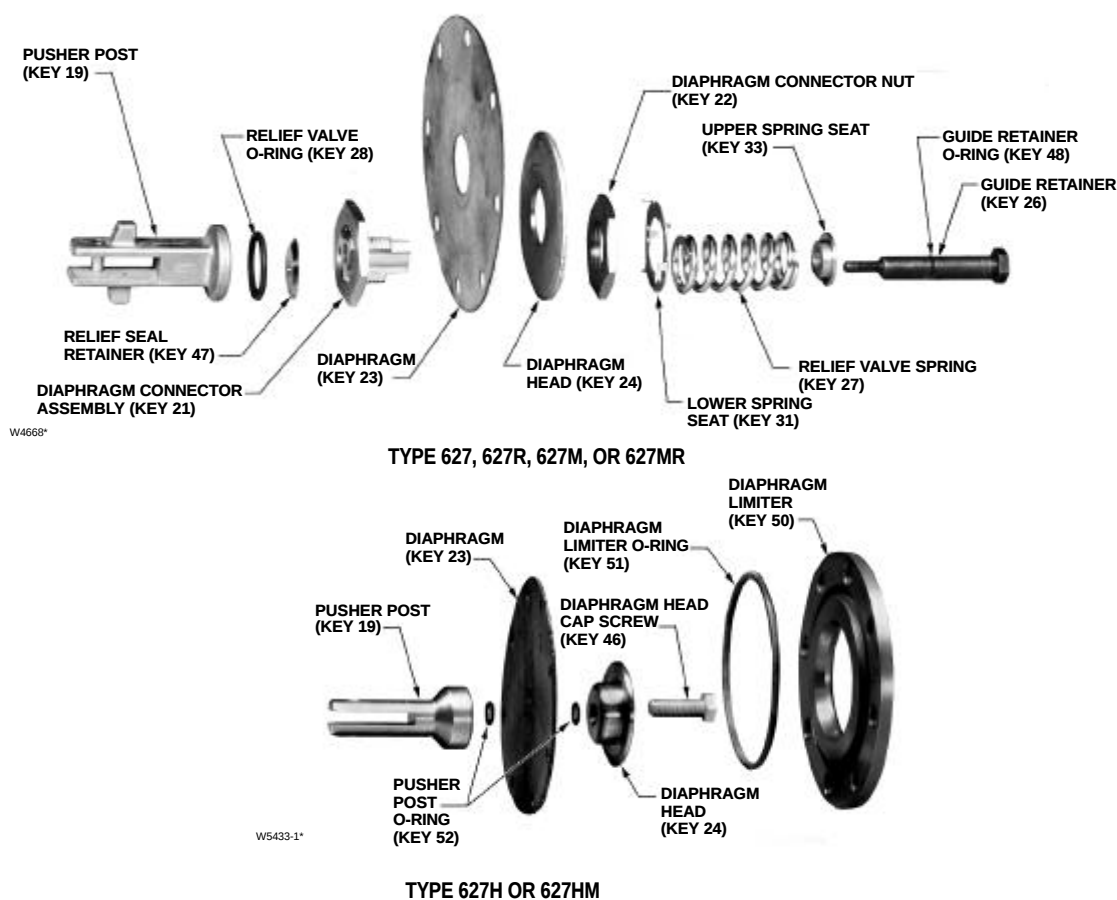

Figure 6. Diaphragm Assembly
12. For Type 627R and 627MR regulators (figure 6), use steps 13 through 19 to disassemble and reassemble the diaphragm assembly:
13. Remove the guide retainer (key 26) and separate the diaphragm parts. Refer to figure 6 for the sequence of parts.
14. To remove the diaphragm (key 23), remove the diaphragm connector nut (key 22) and lift off the diaphragm head (key 24) and diaphragm (key 23) from the connector assembly (key 21). Do not attempt to disassemble the connector assembly (key 21).
15. Position the replacement diaphragm (key 23) on the connector assembly (key 21), install the diaphragm head (key 24) and connector nut (key 22), then torque to 17 foot-pounds (32 NSm).
16. If necessary, replace the guide retainer O-ring (key 48) and, set the guide retainer (key 26) aside, ready for assembly.
17. On the pusher post (key 19) install the relief seal O-ring (key 28) and lubricate (key 42). Also, install the relief seal retainer (key 47), diaphragm connector assembly (key 21, with attached parts) relief spring (key 27), upper relief spring seat (key 33), and guide retainer (key 26). Torque the guide retainer (key 26) to 3 foot-pounds (4 NSm).
18. Hook the pusher post (with attached parts) on the lever (key 15) to check the alignment of the holes in the diaphragm with the holes in the spring casing. If the holes do not line up, unhook the pusher post from the lever, hold the pusher post, and rotate the diaphragm to the correct position.
19. Install the lower spring seat (key 31) over the relief spring so it rests flat on the connector nut (key 22).
20. Insert the diaphragm assembly into the diaphragm casing (key 5) and hook the pusher post on the lever (key 15).
21. Install the control spring (key 32) and upper spring seat (key 33), and apply lubricant (key 38) to the upper spring seat (key 33).
22. Install the spring case (key 29) so that the screened vent assembly (key 30) is in the correct position for the application. Place the nameplates (key 39) over the screw holes, insert the spring case cap screws (key 37), and finger tighten.
23. Screw in the adjustment screw to put slack into the diaphragm (key 23).